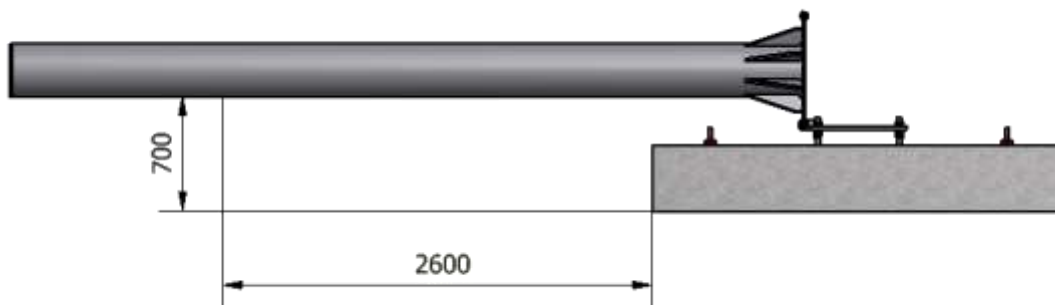

Figure 5 – Supporting the 1st segment
5. Place the mast tripod or wooden pallets with a height of 0,7 m underneath the 1st segment approximately 2,6 m from the foundation edge (see Figure 5).